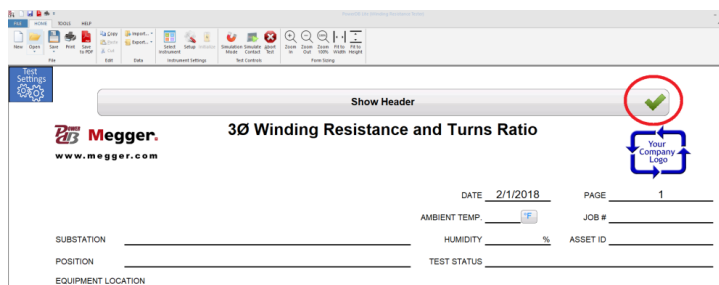

Figure 5: Header Input
1. IF desired, ENABLE and enter the Header information (see Figure 5 below) with pertinent information.